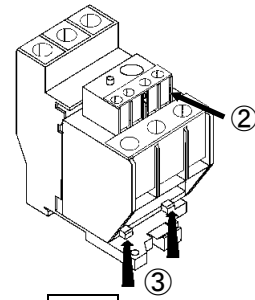

Fig.3
- (3) 将热过载继电器沿方向②推入单独安装单元，直至出现“喀嚓”声。如果本体底面和单独安装单元之间出现间隙，请将单独安装单元沿方向③压入，直至再次出现“喀嚓”声为止。(Fig. 3)
- (3) Pushing the thermal overload relay in the direction of ②, until products sound "click". If clearance exists between the bottom surface of main unit of thermal overload relay and separate-mounting unit, moreover push the separate-mounting unit in the direction of ③, until products sound "click" once more. (Fig.3)